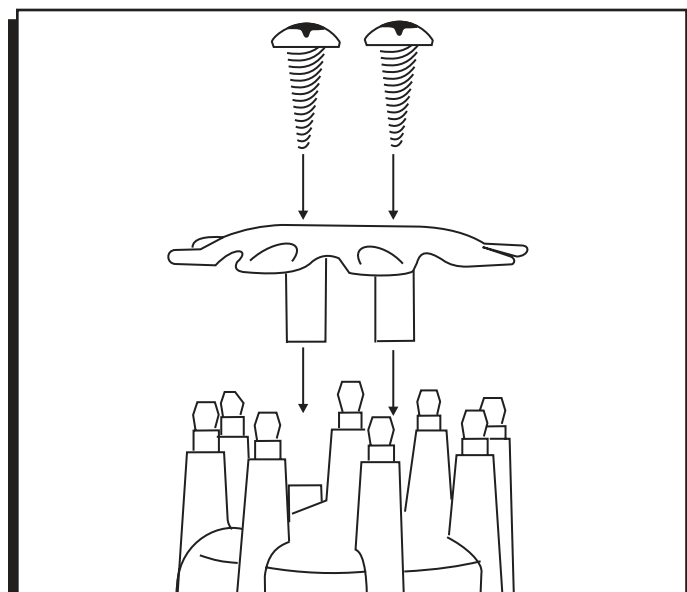

Figure 10 Installing the Wire Retainer.
10. Install the distributor cap and spark plug wires one at a time to ensure correct location. A wire retainer is supplied to secure the wires in place. Align the mounting bosses and use the supplied 1.5" self-tapping Phillips screws to hold the retainer in place (Figure 10).